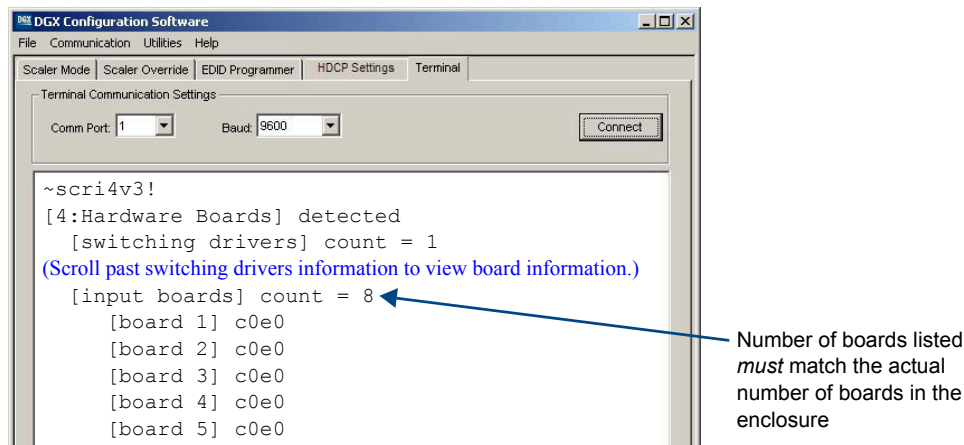

FIG. 127 Splash screen showing boards in the system (Enova DGX 32 example with 8 input boards)
- g. Check to be sure the new board is included in the input or output boards list (FIG. 127). (Audio Insert/Extract Boards are listed under “expansion boards.”) If not, re-seat the board and enter the command again. (*Do not disconnect the terminal program until after Step 16 is successful.*)